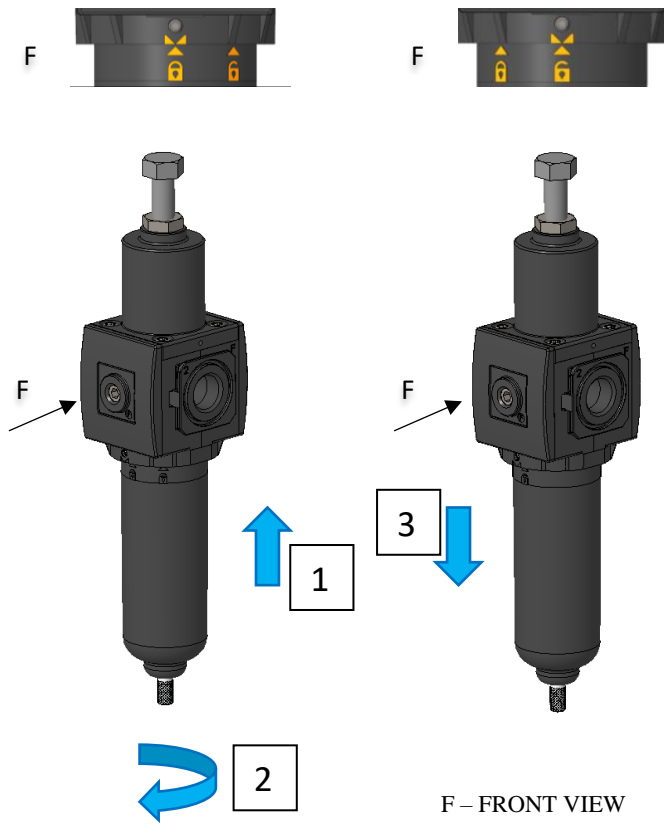

FIG. 17
2. Remove bowl from the body (as shown in fig. 17) and the remove bowl seal